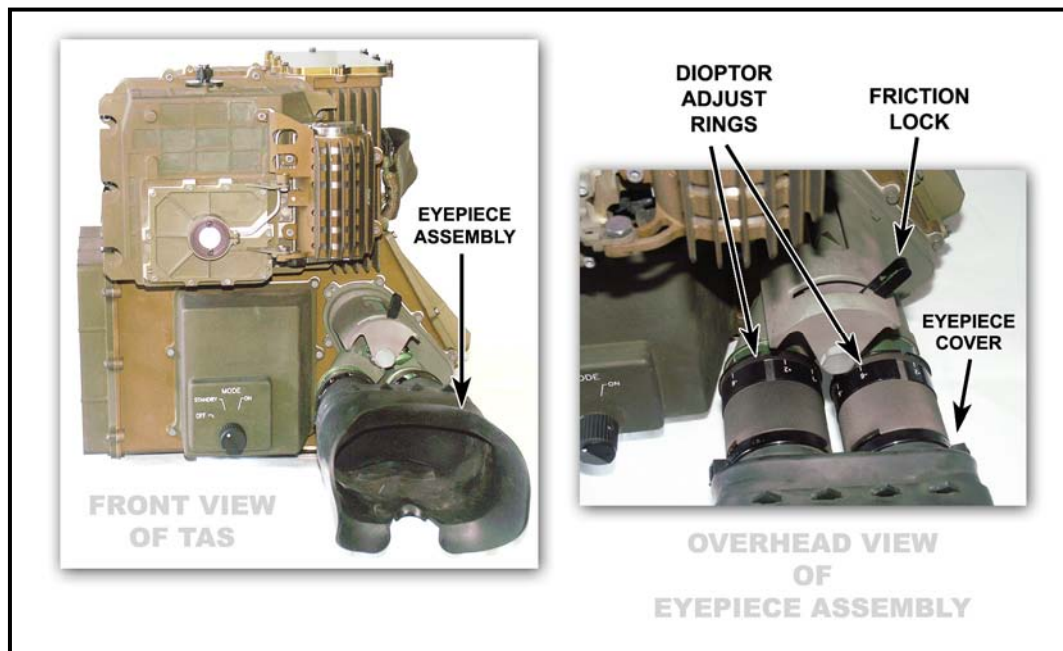

Figure 2-19. Eyepiece assembly.
a. **Eyepiece Assembly.** The eyepiece assembly consists of diopter adjustment rings, the friction lock, and the eyepiece cover (Figure 2-19).